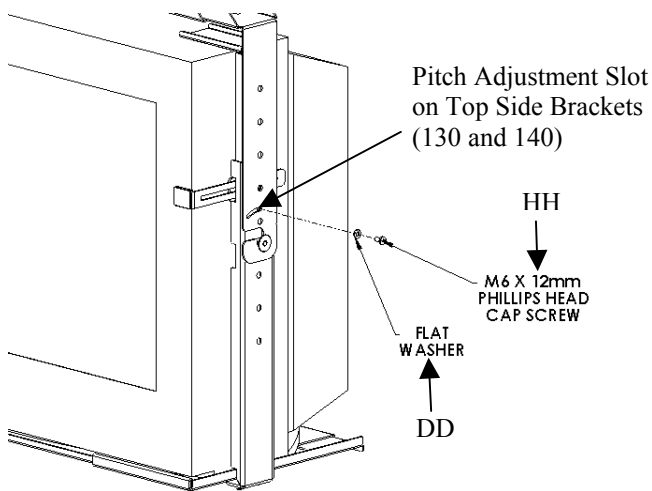
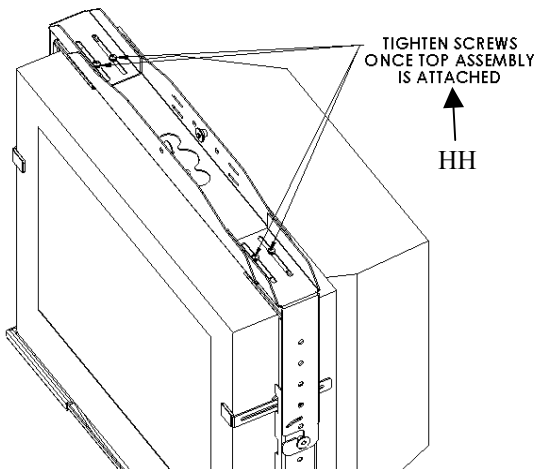

Figure 16. Fasten Center Tray
Figure 17. Tighten Screws on Center Tray
3. Firmly fasten the top assembly to the bottom assembly by inserting two M6 X 12mm cap screws (HH), and two flat washers (DD) into the pitch adjustment slots above the mounting buttons. See Figure 16.
4. Make sure both top side brackets (130 and 140) are parallel with the bottom side brackets (40), leaving the mount with 0-degrees of pitch. The pitch will be adjusted in a later step.
5. Tighten the four screws (HH) on the LH and RH brackets (130 and 140). See Figure 17.